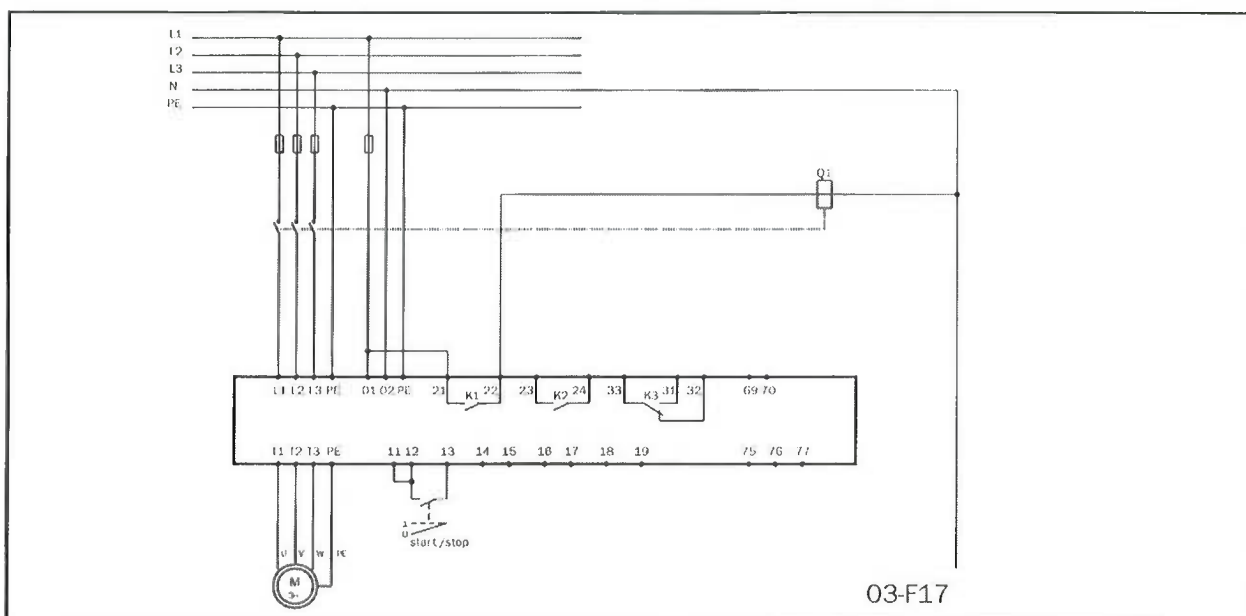

Fig. 6 Standard wiring.
- Connect the motor circuit according to Fig. 6.